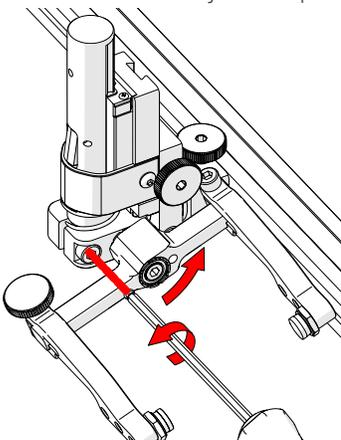

Fig. 53 - Loosen 3 mm screw
2. Using the supplied 3 mm hex driver loosen the transverse adjustment screw (*Fig. 53*) and rotate the yoke about the vertical shaft achieving the desired angle.